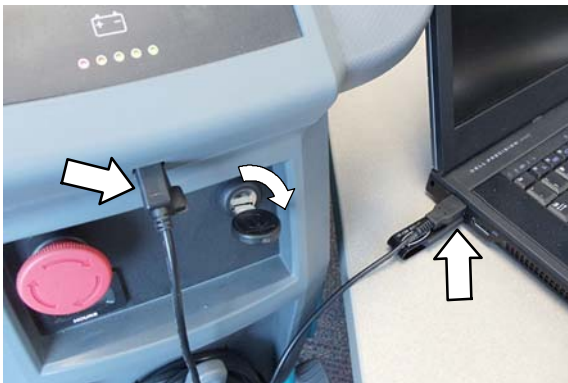

Fig. 39
2. Connect the USB cable to computer and to the USB port on machine as shown. Turn the key switch to the on position (Figure 39).